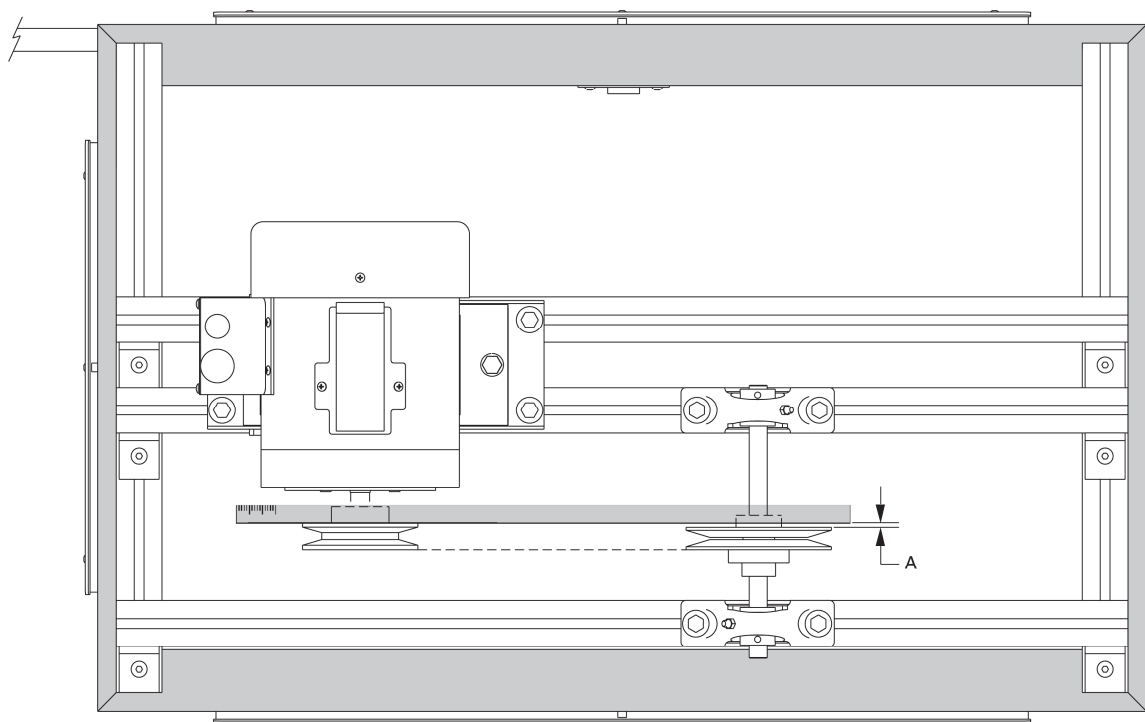

Figure 15. Alignment of the variable-pitch pulley and sheave.
14. Lay a straightedge on the side of the sheave as shown in Figure 15.